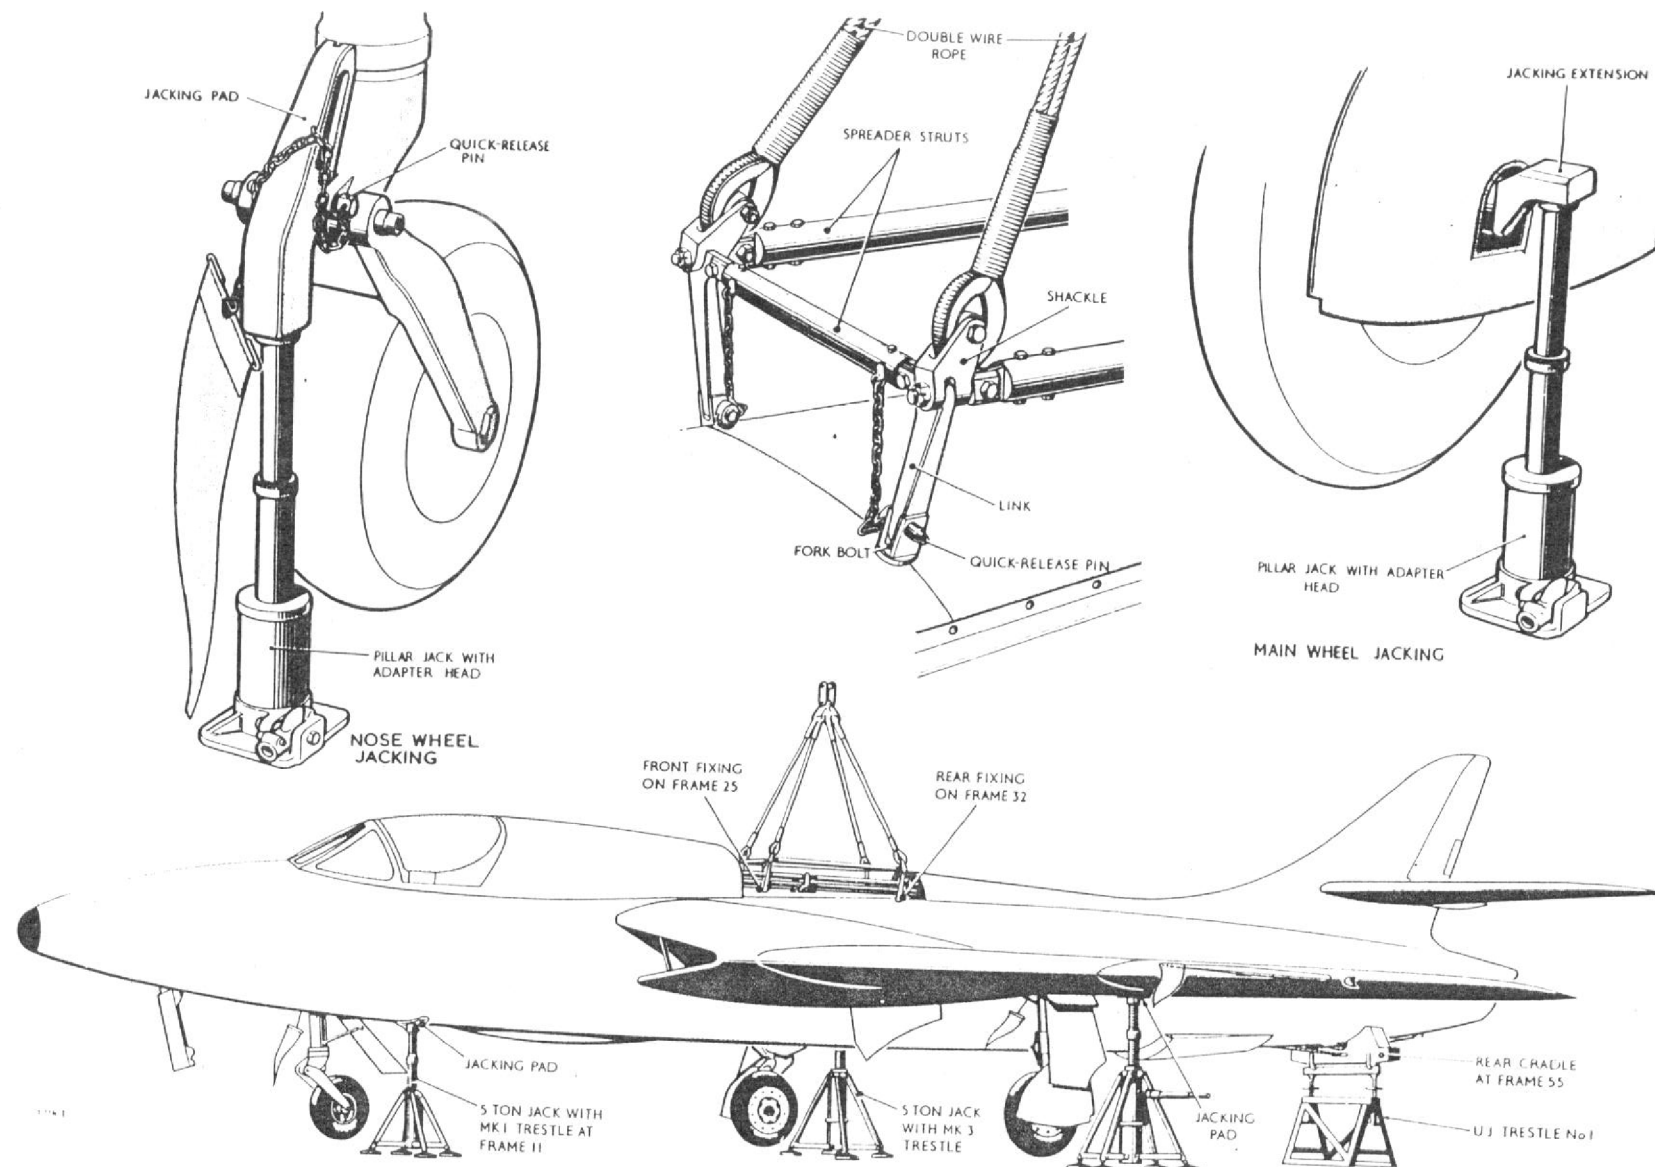

FIG. 2 Jacking, trestling and slinging
- (1) Jack up the aircraft (fig.2) and retract the alighting gear.
- (2) Position the component trestles to fully support the aircraft.
- (3) Remove the outer wings (Sect.3, Chap.2) after removing any external stores which may be fitted.
6. The methods to be employed and the jacks, trestles, etc., to be used when jacking, slinging and trestling the complete aircraft for servicing are illustrated in fig.2. It should be noted that the fuselage jacking pad has a concave bearing surface and must not be interchanged with the wing jacking pad, which has a flat bearing surface.
10. When checking the alignment of the structure by means of the diagonal dimensions given in fig.5, there is no need to trestle the aircraft. When the incidence and dihedral are being checked, the aircraft must be trestled in the flying position, with the equipment shown in fig.2. The procedure for rigging is as follows: